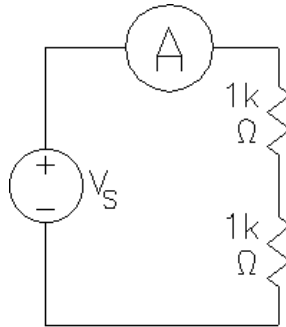

Fig. 9. Circuit with two resistors in series.
- Using your breadboard, the power supply, and the multimeter, build the circuit shown in Fig. 9 having two 1 k Ω resistors in series.